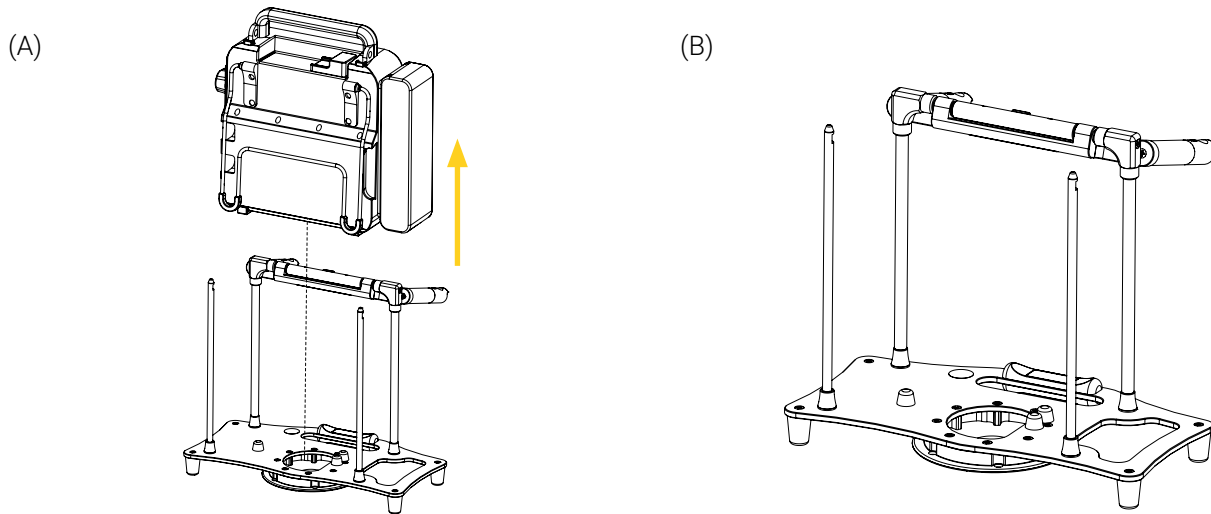

Figure 9: Removing the medical device from the support bracket
2. Lift and remove the medical device vertically from the support bracket (Figure 9), then set it aside.